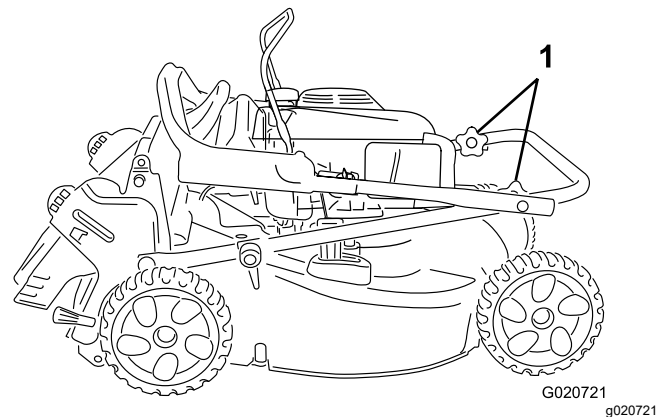

Figure 23
3. Rotate the upper portion of the handle back toward the engine; refer to Figure 23.